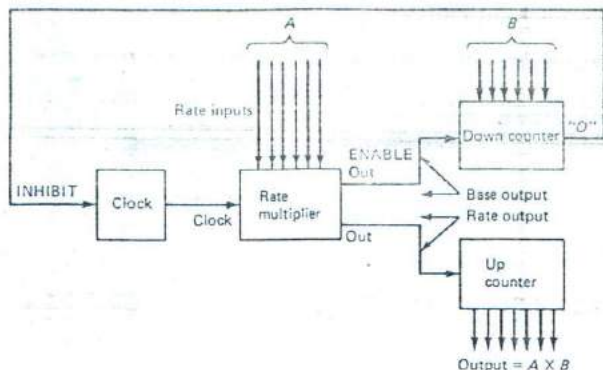

Fig. 11-43 Multiplication with a rate multiplier.
Figure 11-43 shows a multiplication circuit based on a rate multiplier. The base rate is applied to a down counter, and the rate output is applied to an up counter. The multiplicand is applied to the rate inputs. The action begins with the multiplier loaded into the preset inputs of the down counter. The up counter is cleared, and then the clock is started. The circuit runs until the down counter reaches zero, and this inhibits the clock. The up counter outputs are now equal to the product because the rate output is N times the base rate, where N is the binary word applied to the rate inputs. For example, if $N = 000101$, the rate output will be five times the base output. The up counter will get five pulses for every one pulse supplied to the down counter. If the down counter was preset to 000010 (2), the up counter will end up with a total count of 0001010 ($5 \times 2 = 10$). The circuit can be converted to a divider by interchanging the outputs of the rate multiplier. The base output will be applied to the up counter, and the rate